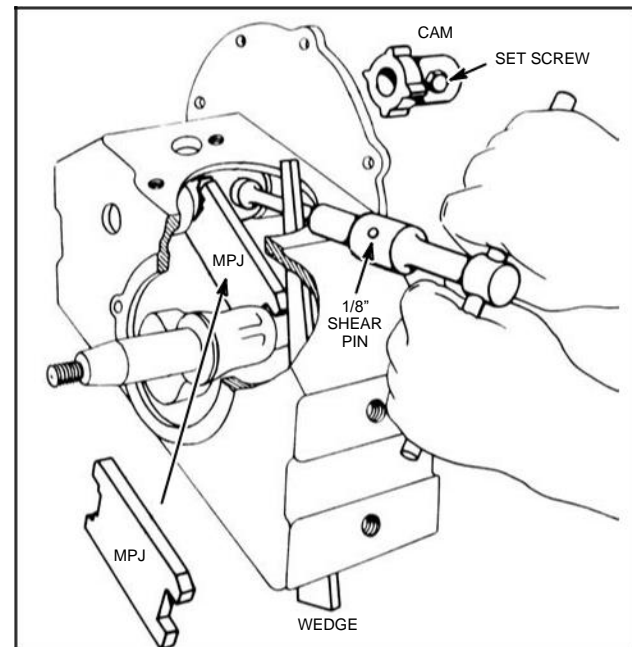

Fig. 883 - ASSEMBLE CAM GEAR, MODEL PB
Place Timing Tool #MPJ (NLA) between cam and crankpin as shown in Fig. 883. Use a wedge 10" long as shown to hold crankshaft in place. Use Socket Wrench, Tool #13A33-T1\* (NLA) and 13A33-T2\* (NLA) to tighten the set screw on cam. A piece of 1/8" round cold rolled steel is used as a shear pin between the two (2) ends of the wrenches, and the set screw is tightened until the 1/8" cold rolled steel is sheared off. Allow end play of about .005" on cam before tightening set screw.